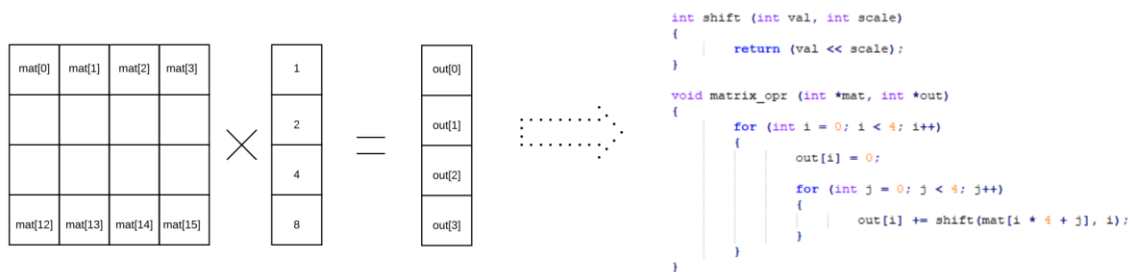

Figure 6 C to RISC-V Assembly Translation
Figure 6 shows a special matrix operation written in C. Please translate it into RISC-V assembly language (assume `int64_t mat[16] = {0, 1, 2, ... 15}`). Please pay attention that (1) our assembler doesn't resolve any symbols, so when you write something like `jal x1, shift` or `bne x5, x7, exit`, please use the absolute address or relative address instead; (2) there is always a **SPACE** after the comma.